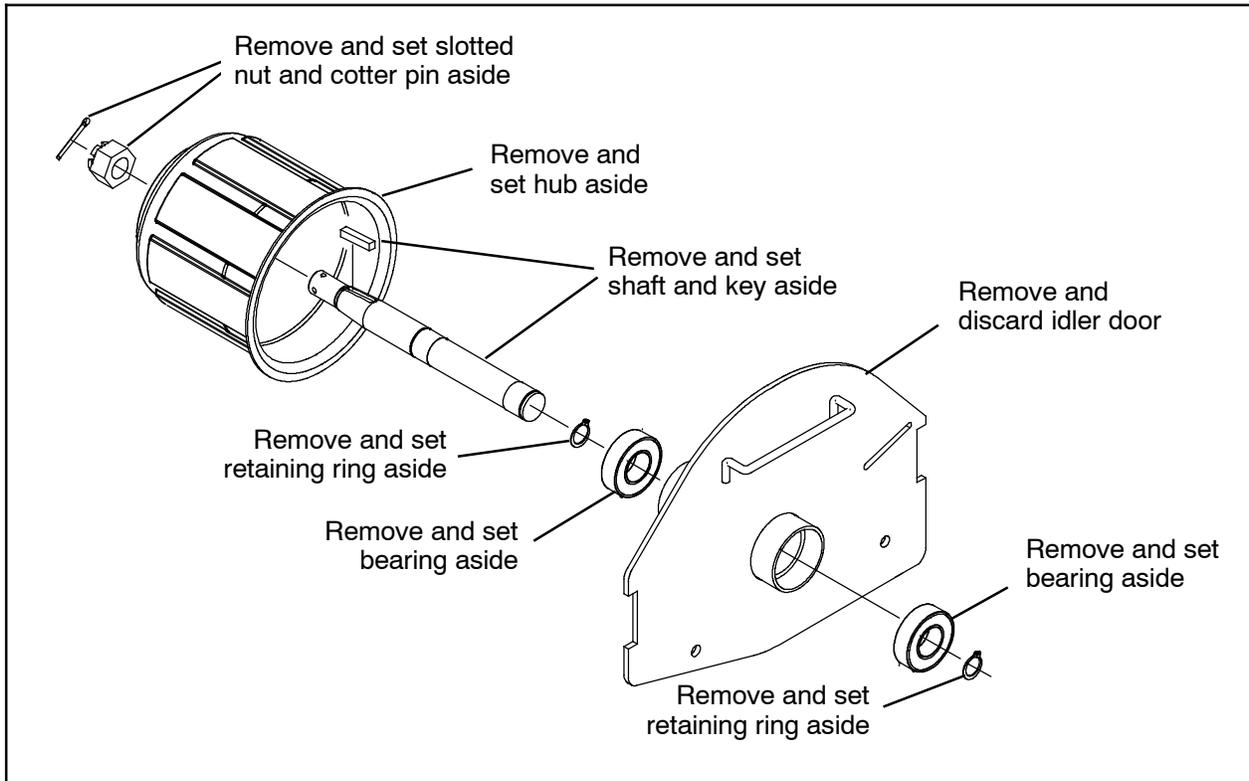

FIG. 5
13. Remove the cotter pin securing the slotted nut onto the idler assembly and remove the slotted nut and hub from the idler assembly. Set the slotted nut, hub, and cotter pin aside. (Fig. 5)
14. Remove the retaining rings holding the shaft in the idler door and remove the shaft from the idler door. Set the shaft and retaining rings aside. (Fig. 5)
15. Carefully remove the bearings from inside the idler door. Do not damage the bearings. Set both bearings aside. Discard the idler door. (Fig. 5)